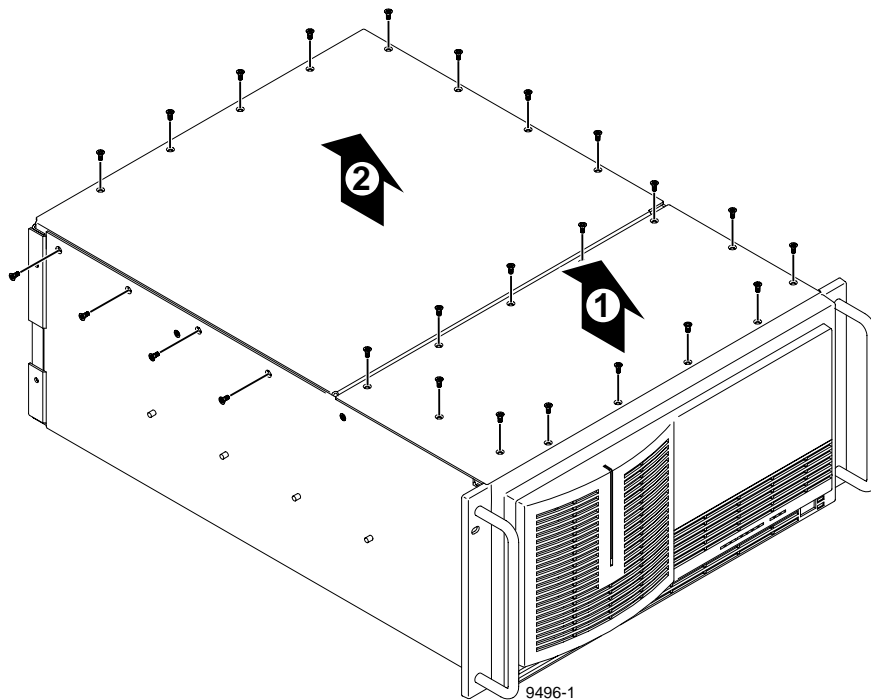

Figure 13. Removing the top covers
3. Use the Torx tool with the T10 tip to remove the top screws from the front chassis cover (❶ in Figure 13). The front cover must be removed before the rear cover.
4. Use the Torx tool with the T10 tip to remove the rear chassis cover (❷ in Figure 13) which covers the circuit boards.